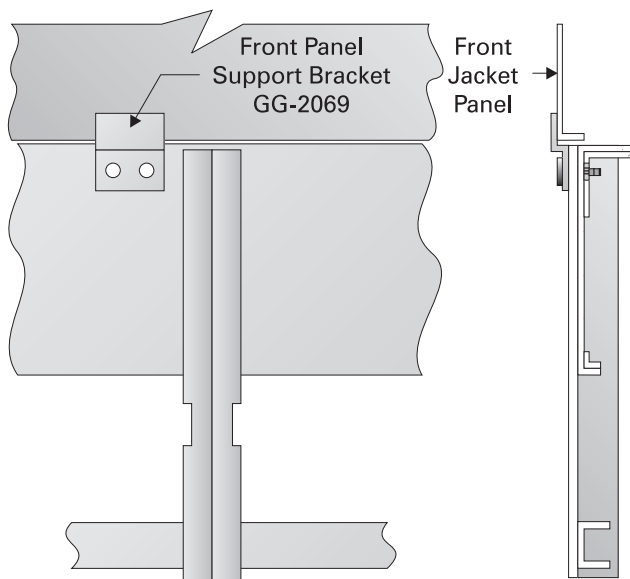

Figure 2.4: Support Bracket Installation
- a. Attach a Front Panel Support Bracket to each Front Panel as shown in Figure 2.4.